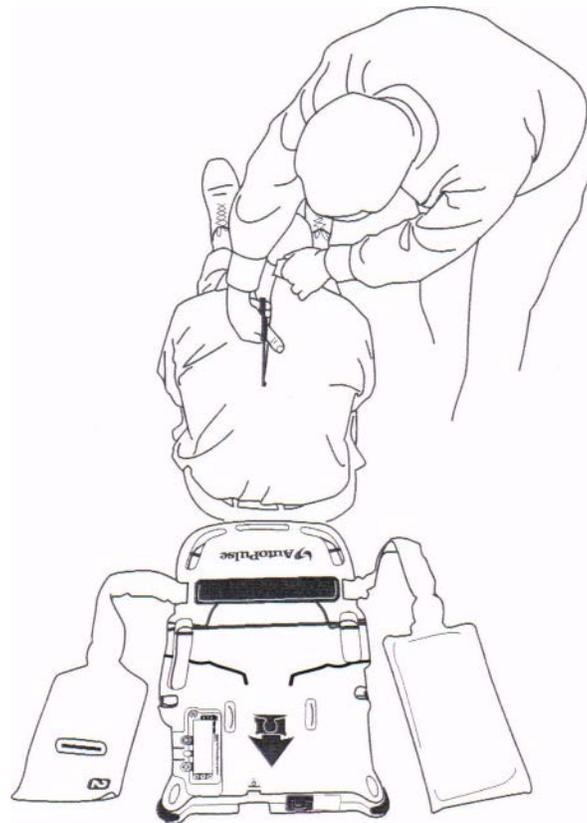

Figure 3-4 Cutting Patient Clothing and Positioning of AutoPulse Platform
3. After assessing the patient's condition, sit the patient up and make a single cut down the back of the patient's clothing (see Figure 3-4).